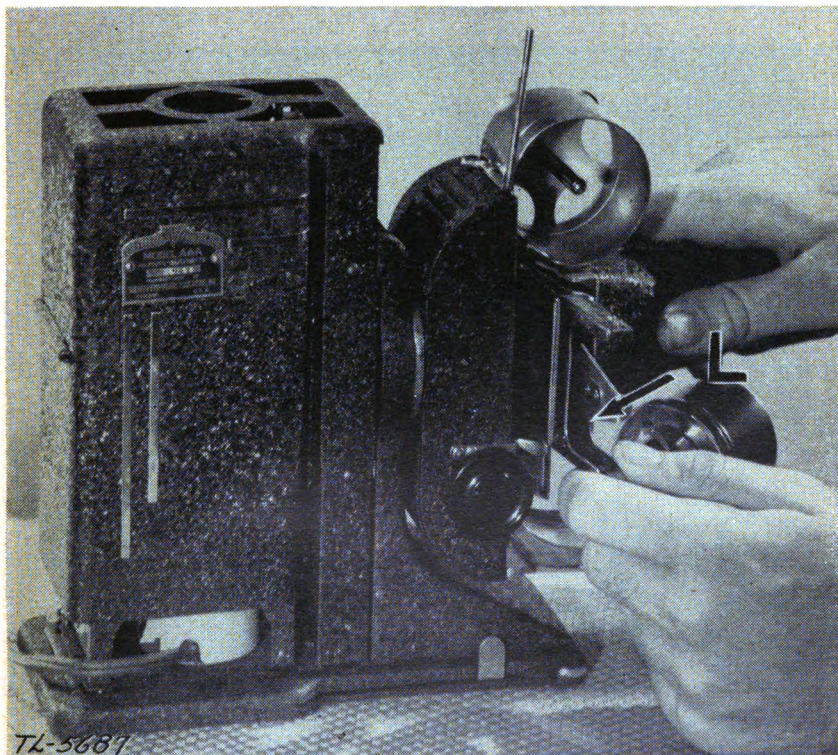

FIGURE 75.—Installing automatic slide changer.
*c.* Place semiautomatic slide changer *L* (fig. 75) in film gate by inserting small pin on slide changer in the receiving hole and closing gate.